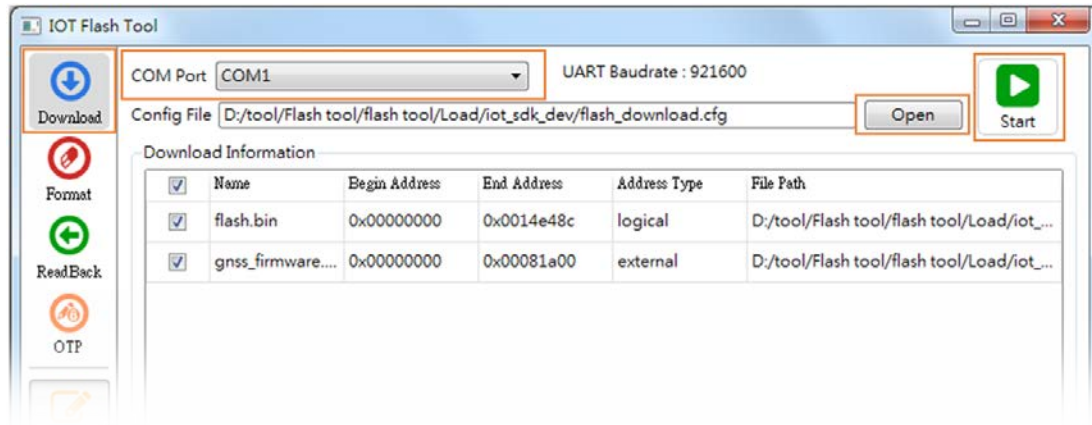

Figure 31. Download the firmware to a target device using USB connection
- 4) Click **Open** to provide the configuration file, which is usually named as `flash_download.cfg` and is generated after build process. If it loads successfully, **Download Information** will be displayed, including **Name**, **Length** and **File Path** of the firmware binary, as shown in Figure 31.